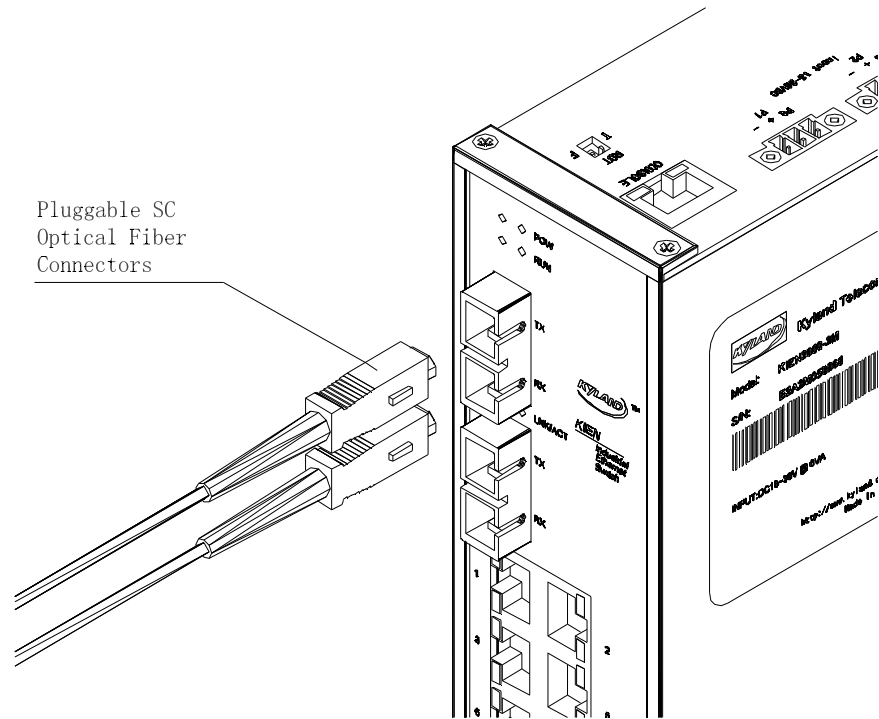

Figure 4-6 Optical port connection
- 3 . Connect one end of optical fiber cable to the optical fiber interface of the switch and the other end to the optical port of another equipment as shown in Figure 4-6.